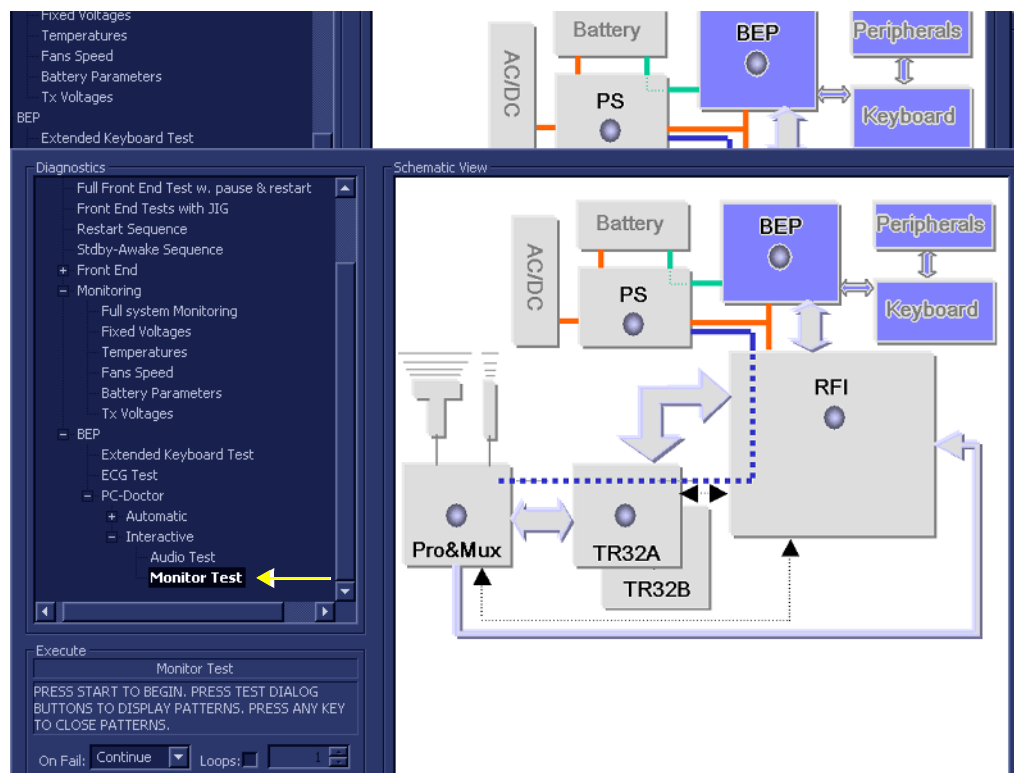

Figure 7-99 Monitor Test
- 1.) In the *Diagnostic Test* window, trackball to **Monitor Test** in the list of *Interactive PC Doctor* tests available for selection from the Diagnostic Test Tree (see Figure 7-99 below) and press **Set**. The Test name is displayed under *Execute*; the relevant system components to be tested are highlighted light blue in the Schematic View (BEP, Peripherals, Keyboard), as shown below: